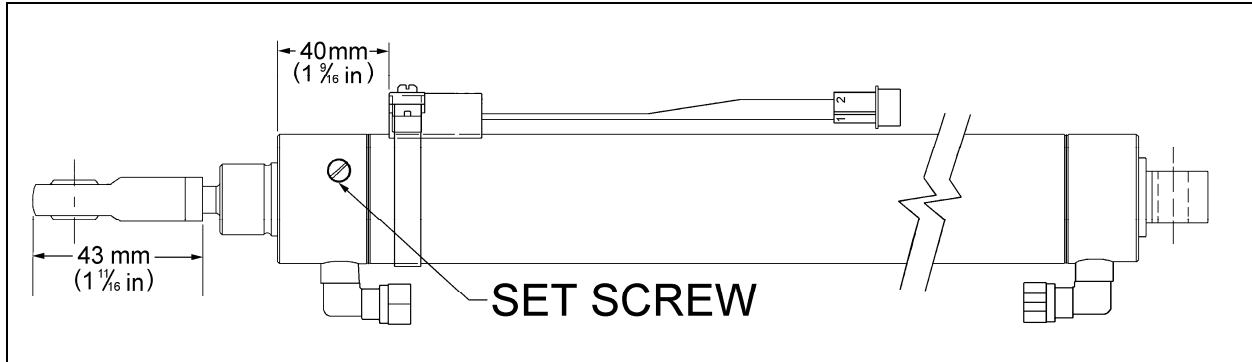

FIGURE 2: 2-INCH AIR CYLINDER ASSEMBLY
3. Cut rod end of new air cylinder assembly (Prevost #285929) to a length of 1 11/16 inches (43 mm) overall (refer to figure 2). Apply blue "Loctite" onto cylinder rod threaded part before fastening together.
7. Fasten flexible tubing to elbow fittings. Connect new cylinder electrical connector with power cable connector then secure using tie-wraps. Ensure that position sensor is located 1 9/16 inch (40 mm) from cylinder end and adjust set screw by firmly tightening and then stepping back ¼ of a turn (refer to figure 2).
10. Fasten flexible tubing to elbow fittings. Connect new cylinder electrical connector with power cable connector then secure using tie-wraps (Prevost #504637). Ensure that position sensor is located 1 9/16 inch (40 mm) from cylinder end and adjust set screw by firmly tightening and then stepping back ¼ of a turn (refer to figure 2).